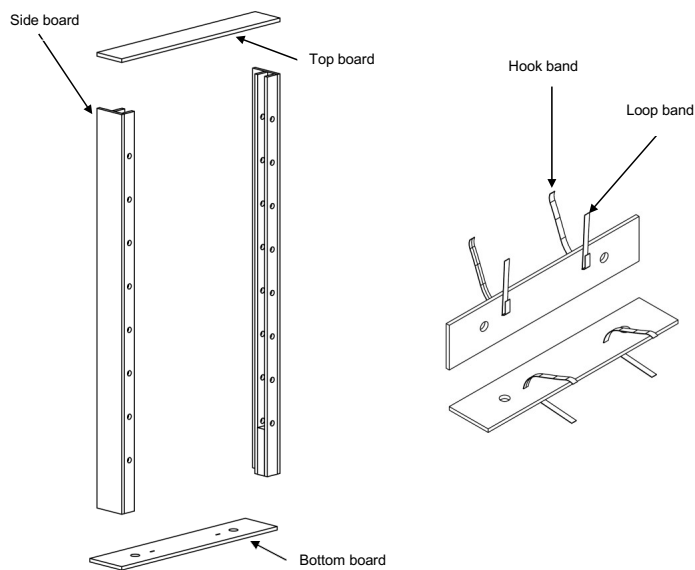

Figure 3: Assembling the frame and attaching the hook-and-loop bands
The first task is to assemble the frame. Start by stapling the hook bands (6) with the hooks facing upwards to the underside of the bottom board in the recesses provided. Then staple the loop bands (7) to the underside of the bottom board, pulling them through the designated holes (see figure 3). You can now assemble the individual parts using the M5×80 Spax screws, as shown in figure 3. The holes for the screws have been pre-drilled.